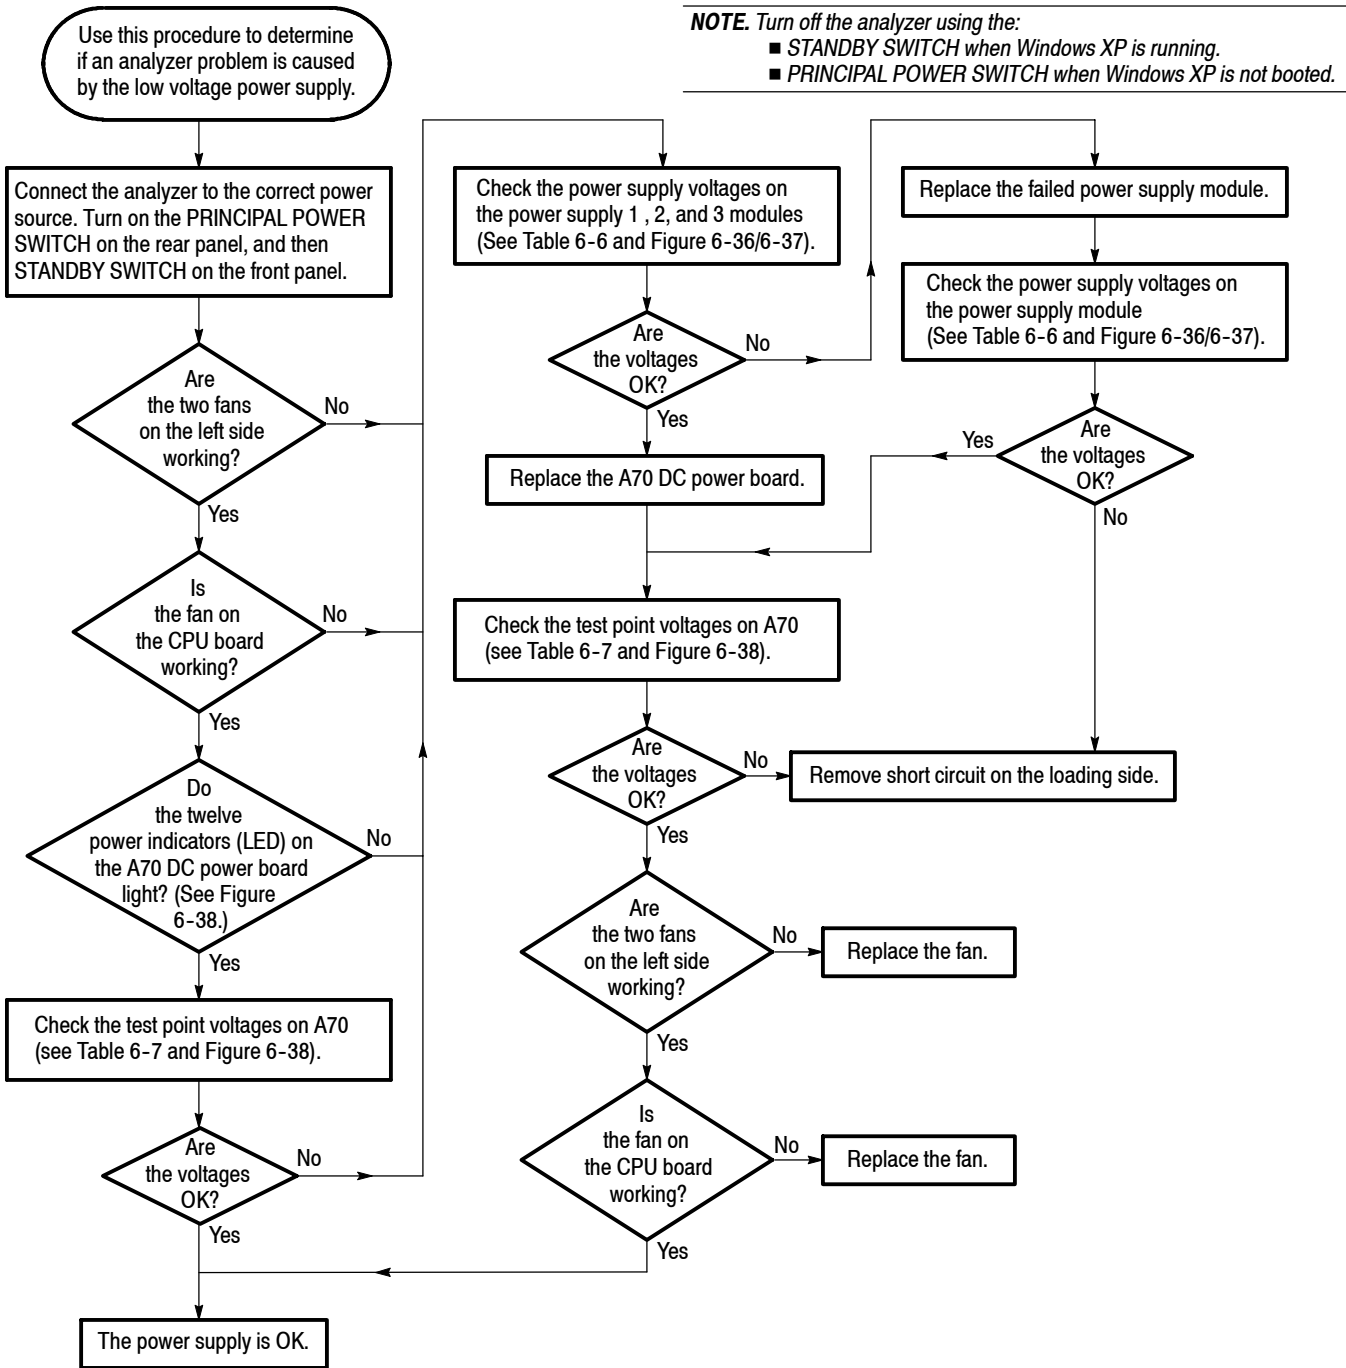

Figure 6-32: Troubleshooting procedure 1 — Power supply system
- Figure 6-32: Troubleshooting Procedure 1 — Power supply system